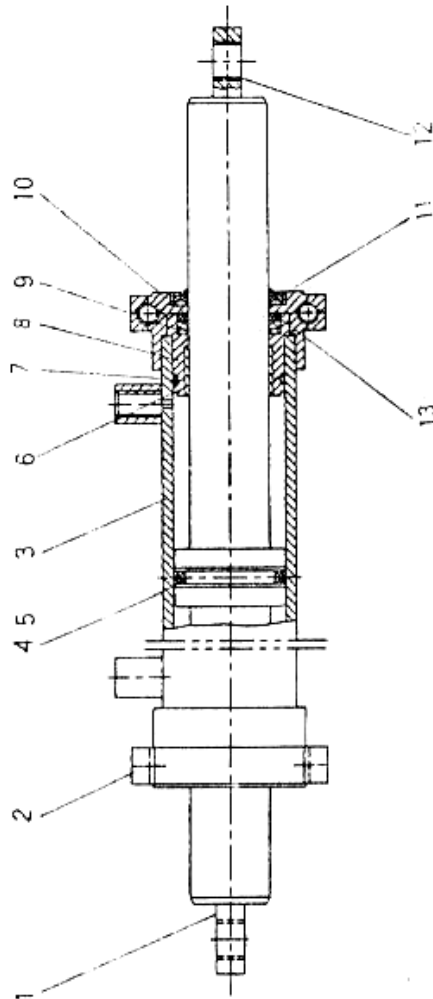

Fig 4-3 Steering Cylinder
##### (2) Steering Cylinder (Fig 4-3)